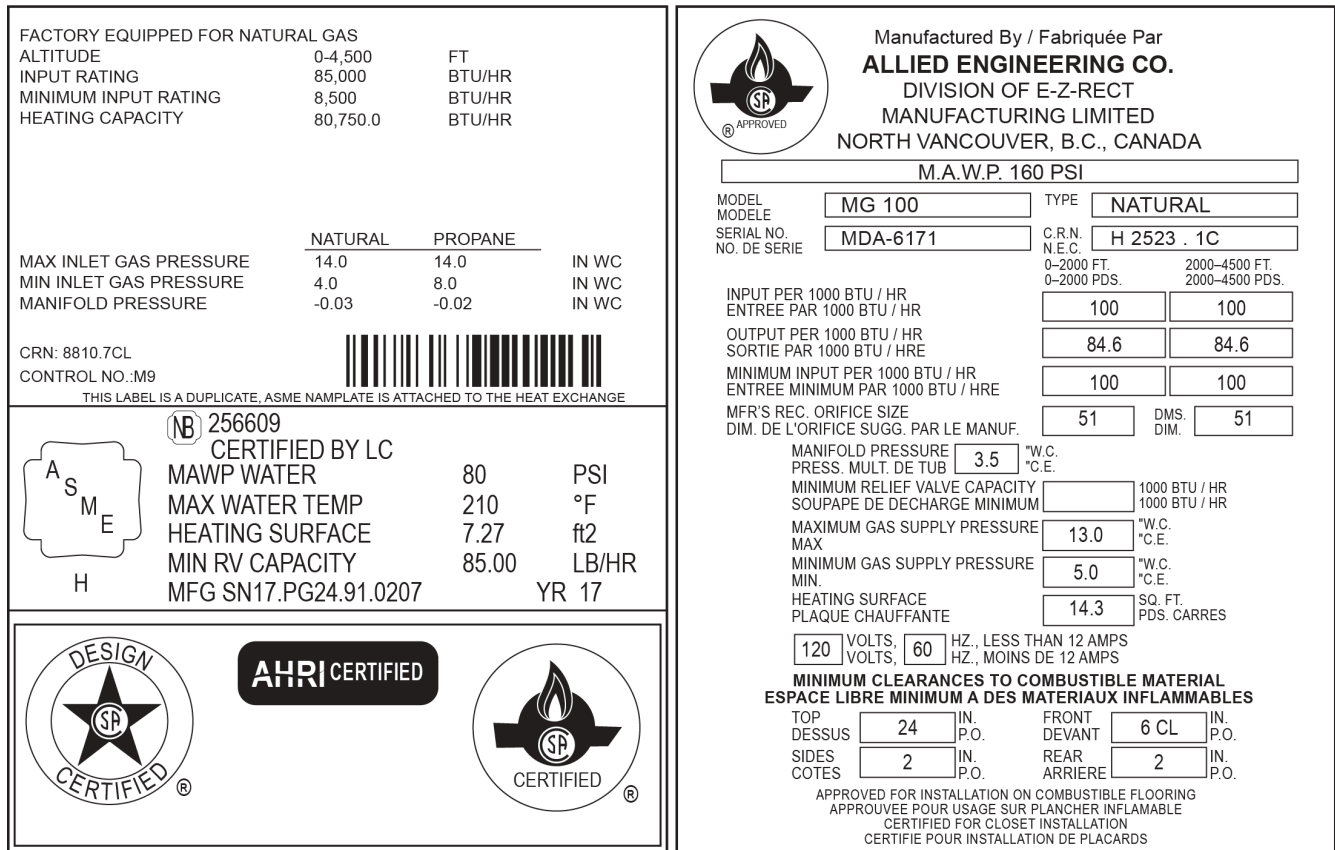

Figure 2 Hot water boiler rating plate. (Skilled Trades BC, 2021) Used with permission. Long description (#Fig2_longdesc)
- **Figure 2** Commercial cooking equipment (<https://pxhere.com/en/photo/829792>) (adapted) is from pxhere and is used under a CC0 1.0 Universal (<https://creativecommons.org/publicdomain/zero/1.0/>) public domain license.
Notice that the manufacturer's specifications shown in Figure 1 supplied information regarding more than one model of this product line. To confirm the actual model, an installer will need to check the information found on the **rating plate** attached to the appliance at the factory. Figure 2 shows two examples of gas hot water boiler rating plates. The boiler on the left is a modern modulating condensing type, and the one on the right is a conventional atmospheric boiler.